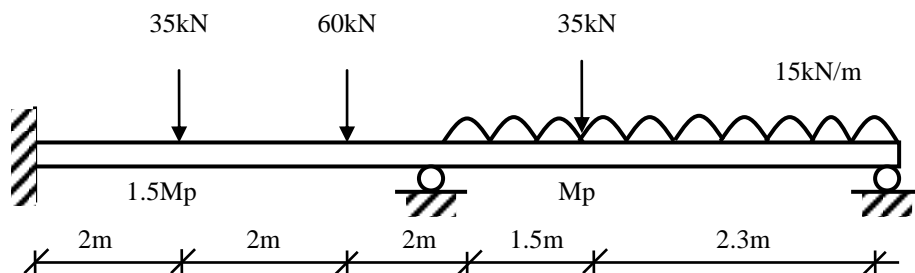

Fig. 2.0
2. A continuous of beam ABC carries working loads as shown in Fig. 2.0. Assuming a load factor 2.0, design suitable section for span AB and BC. Shape factor is 1.12 and yield stress of steel is 250 MPa.